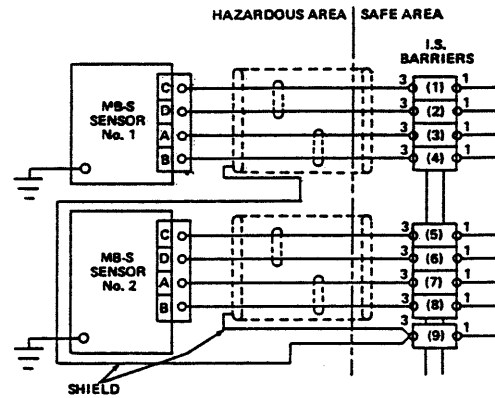

FIGURE 5
C. Electrical Connections — Sensor (See Fig. 5)
Terminal 3 of Barrier 2, Pin A to Terminal 3, of Barrier 3, and Pin B to Terminal 3 of Barrier 4, (See Fig. 5).
Barrier 7, and Pin B to Terminal 3 of Barrier 8 (See Fig. 5).
3. Connect shield wire from both Sensor cables to Terminal 3 of Barrier 9 (See Fig. 5).